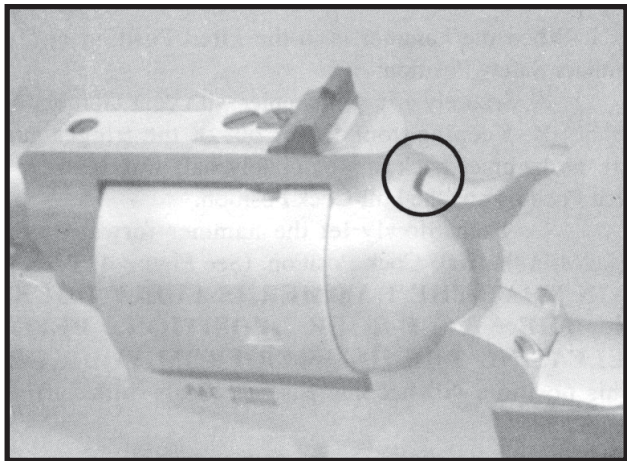

Figure 5 -- Hammer Safety Position
HAMMER SAFETY POSITION - In this position, the hammer is slightly back and away from the receiver, and you will see a slight gap between the hammer and receiver. (See Figure 5)
E. Visually confirm that there is a gap between the hammer and the receiver, as shown in Figure 5. If there is no gap, carefully repeat steps A, B, C, D and E.